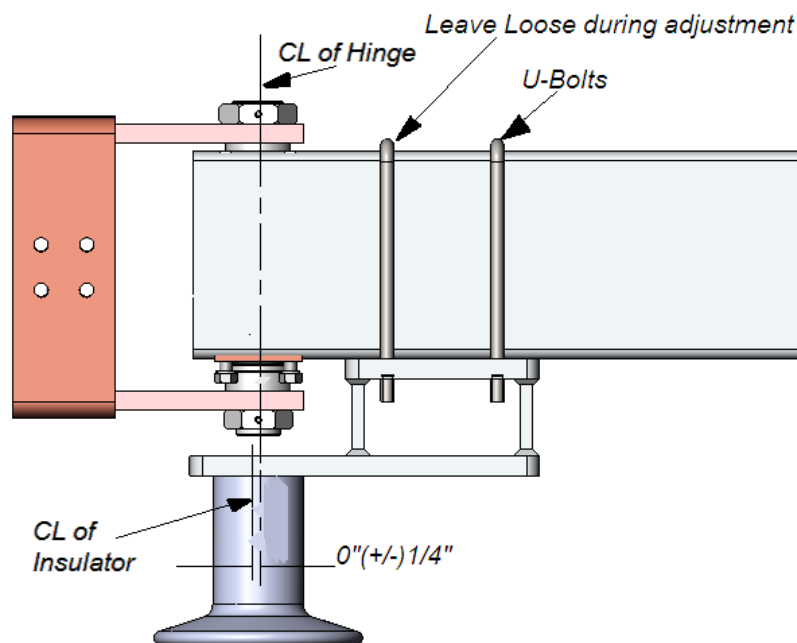

Figure 13: Hinge assembly of 4000/5000A
9. Special adjustments have been built into 4000 & 5000 ampere switches. When assembled, CL of insulator and CL of rotating hinge shaft should be collinear (**Figure 13**). Blade closing can be adjusted by increasing or decreasing blade penetration, if needed. The following steps should be followed on both male and female blades: